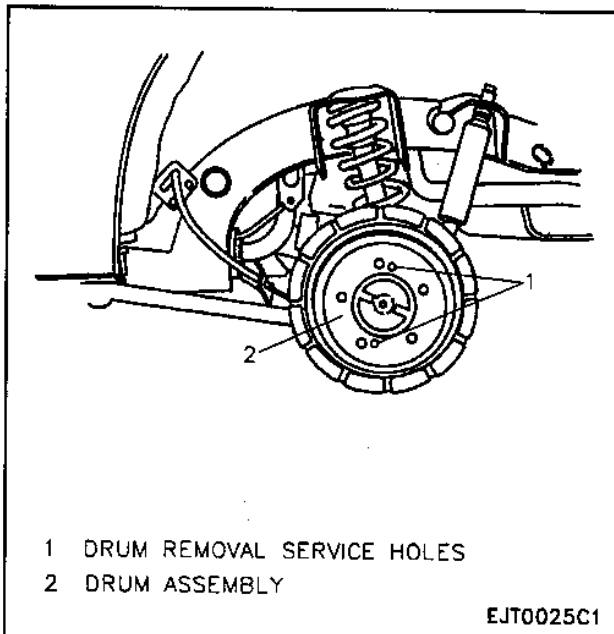

Figure 1—Removing Brake Drum
**ON-VEHICLE SERVICE****DRUM***Figures 1 and 2***Remove or Disconnect**
6. Pull drum from axle hub by insert two screws into drum (Figure 1).
**LININGS***Figures 1 and 3*
3. Upper and lower return springs (Figure 1).
4. Adjuster strut, lever and spring (Figure 1).